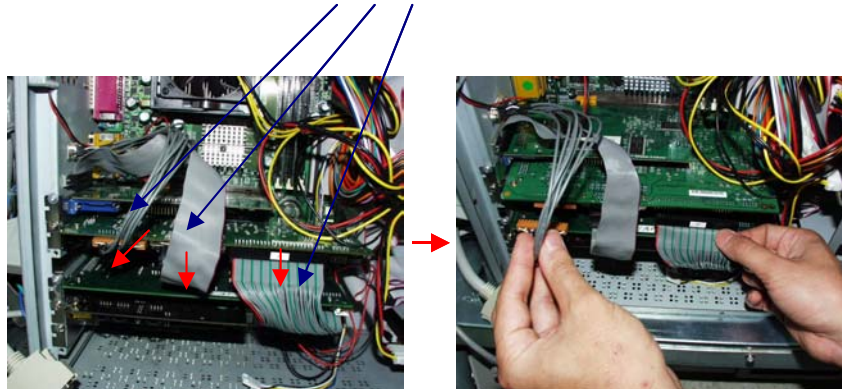

Figure 8-27 Connectors on VIC assy
- 1.) Disconnect all of connect in VIC assy. Refer Figure 8-27 on page 8-89